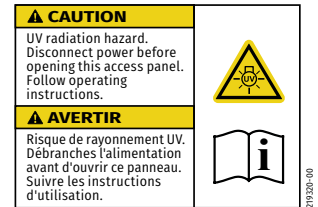

Fig. 3 Disconnect power before opening any doors or access panels bearing this label. See page 8.
- Doors and access panels bearing the ultraviolet radiation hazard label, which may have UV-C SPECTRAL IRRADIANCE greater than 1.7 $\mu\text{W}/\text{cm}^2$, are provided with an interlock switch to interrupt the power to the UV-C LAMPS for your safety. Do not override. See fig. 3.